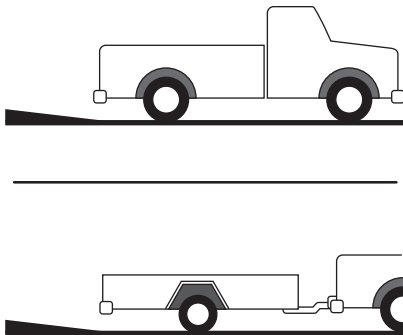

Figure 3-10
3. Face the truck bed or trailer towards a slight incline, which will reduce the steepness of the loading angle by bringing the bottom of the ramps up on the slight incline. See Figure 3-10.